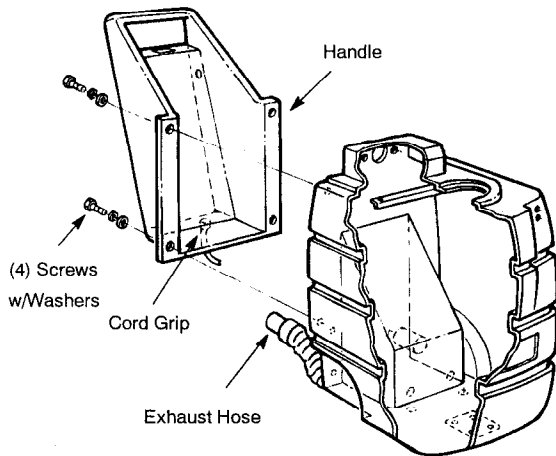

FIG. 1.
1. Remove handle from ship position. Also remove upper handle mounting screws and washers from machine. (Figure 1)